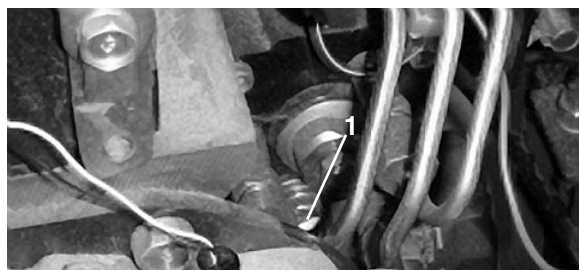

Figure 23
4. Open the air bleed screw on the fuel injection pump (Fig. 23) with a 10 mm wrench.